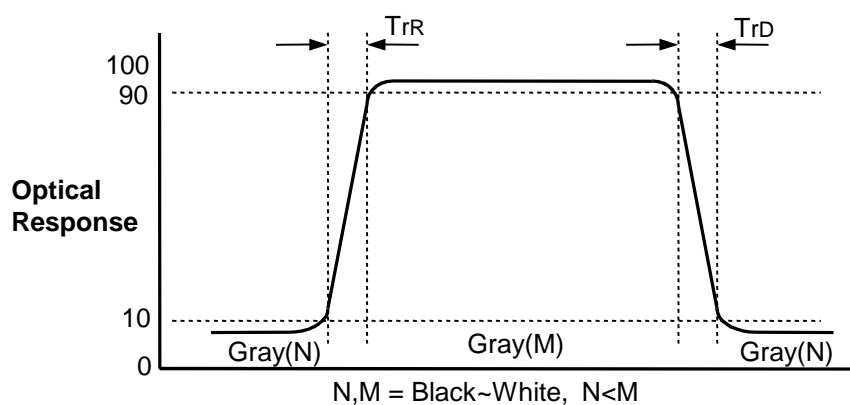

FIG.3 Response Time
4. Response time is the time required for the display to transit from G(N) to G(M) (Rise Time, Tr_R) and from G(M) to G(N) (Decay Time, Tr_D). For additional information see the FIG. 3. (N<M)